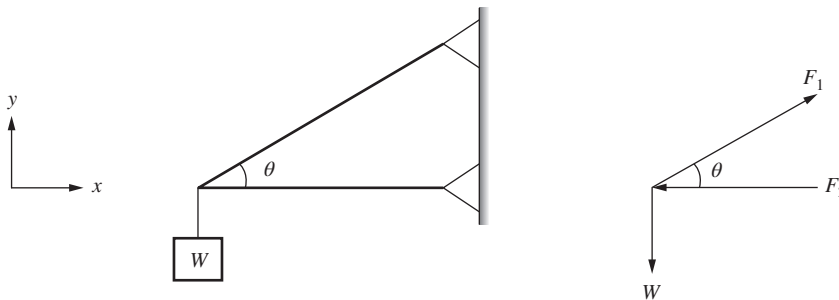

Figure P4.36 A weight supported by a two-bar truss.
4-36. A two-bar truss supports a weight of $W = 750$ lb as shown in Fig. P4.36. The truss is constructed such that $\theta = 38.7^\circ$.
- Using the positive x - y coordinate system shown in Fig. P4.36, write the forces \vec{F}_1 , \vec{F}_2 , and weight \vec{W} in rectangular vector notation (i.e., in terms of unit vectors \hat{i} and \hat{j}).